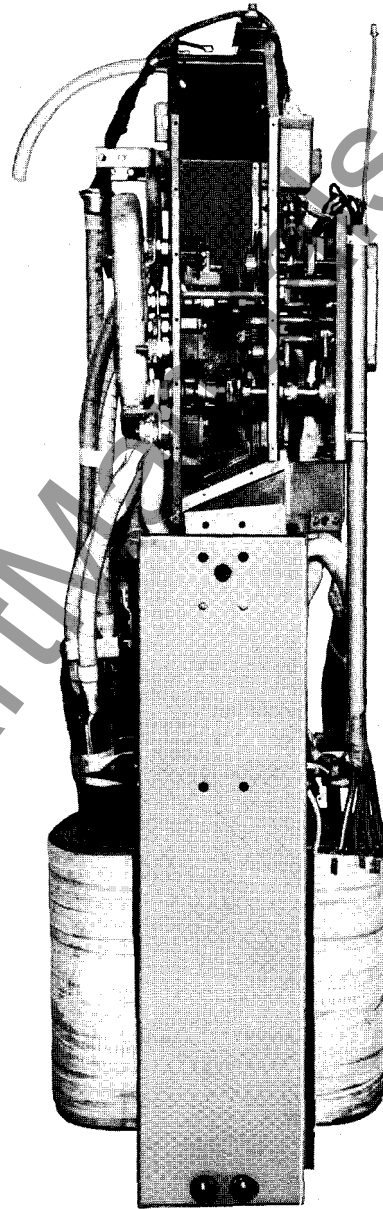

Fig. 17 - URF Internal Assembly
8. Remove the lifting channels and the side panels from the tap changer to provide room enough to replace the arcing contacts. See Figure 17.